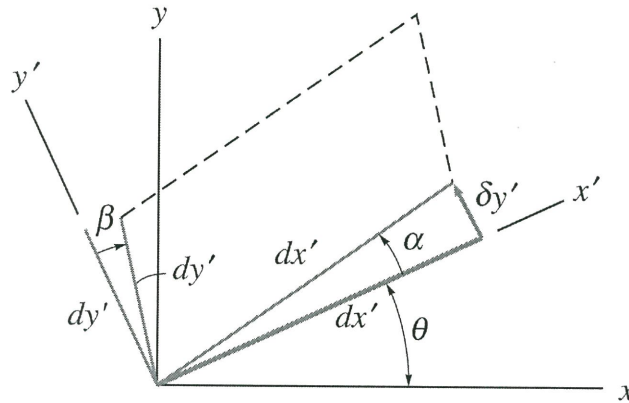

Figure Q1
- Q1.** (a) **Figure Q1** shows rotation of line  $dx'$  and  $dy'$  subjected to strain component  $\epsilon_x$ ,  $\epsilon_y$  and  $\gamma_{xy}$ . The rotational counterclockwise of line  $dx'$  will be defined by angle,  $\alpha = \delta y' / dx'$ . Given that displacement  $\delta y'$  can be determined by three displacement 'components' acting in y-direction and  $\beta$  is  $90^\circ$  from  $\alpha$ . If  $\alpha - \beta = \gamma_{xy}$  and with the help from information given in **Appendix**, prove that shear strain of an element is given as: